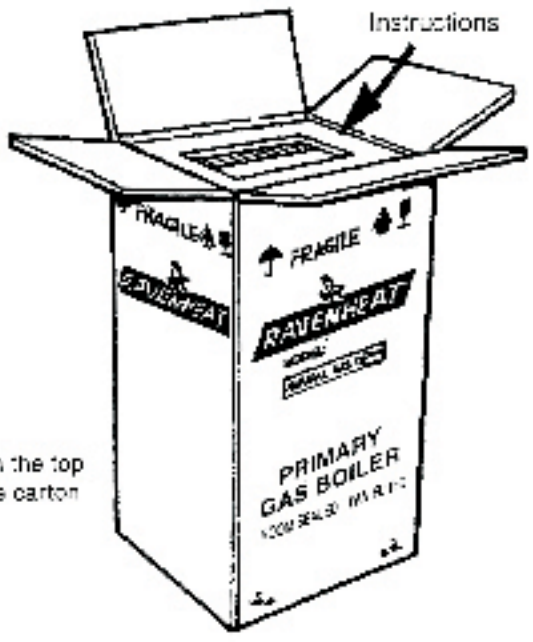

Fig 15
**5.2.1 The appliance carton containing (Fig.15)**